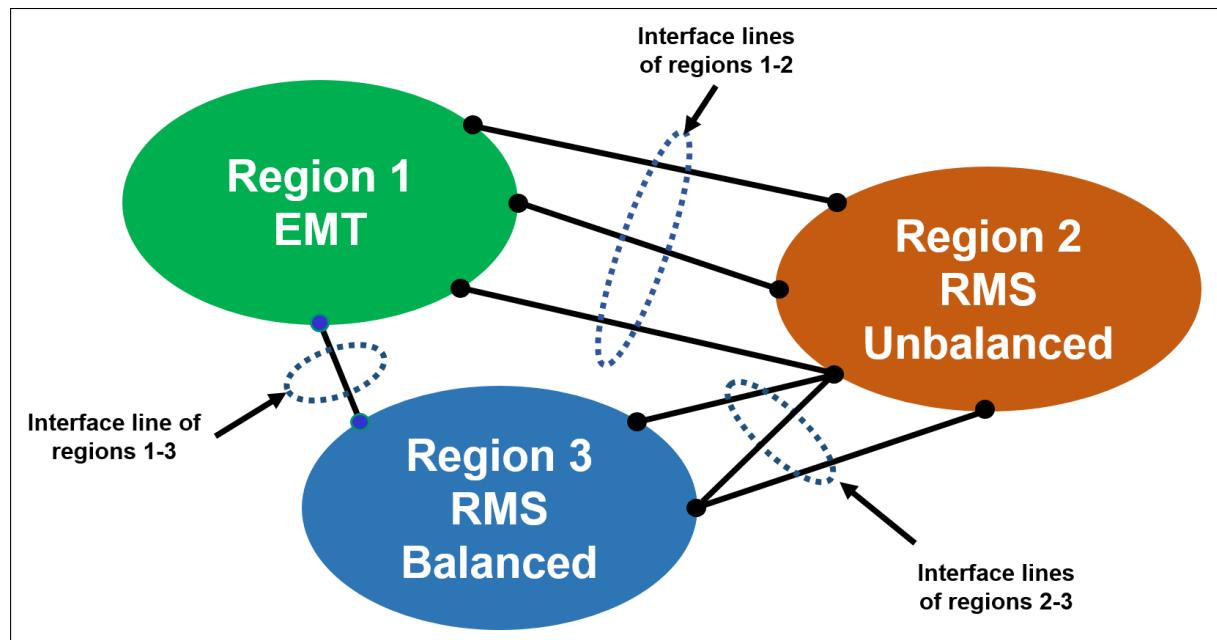

Figure 29.10.1: Example of co-simulation *domains* and corresponding *interface elements*
- **Region:** Within the *Single/Multiple domain co-simulation*, multiple *simulation units* can be included, while the associated power systems model of each unit is referred to as a **Region**. This is due to the fact that in the case of power system analysis applications the linking between the *simulation units* is typically done at the border between physically separated regions of the power system, as shown in Figure 29.10.1. Co-simulation domains are assigned individually for each *region*.